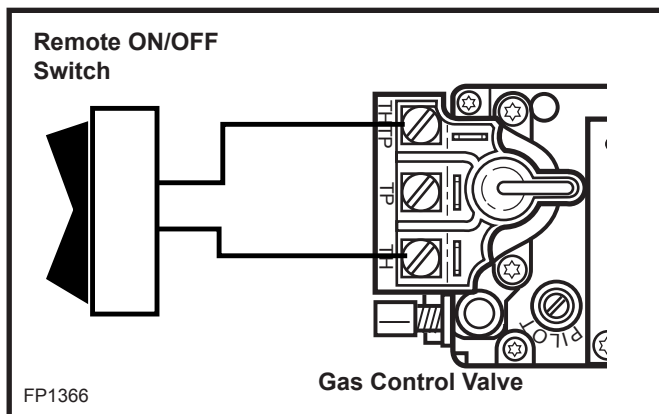

Fig. 9 Remote switch wiring diagram for R models.
3. Connect the other end of the wire to the gas control valve. (Fig. 9)